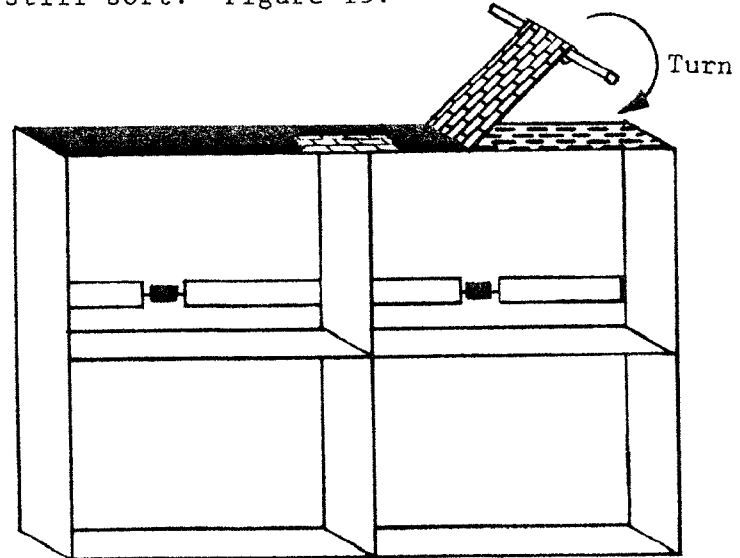

Figure 15
10. Remove the webbing while the brick is still soft. Roll the stick under and raise it up so the webbing is at about a 45 degree angle to the surface. Keep rolling the webbing onto the stick. If needed, touch up the bricks while they are still soft. Figure 15.